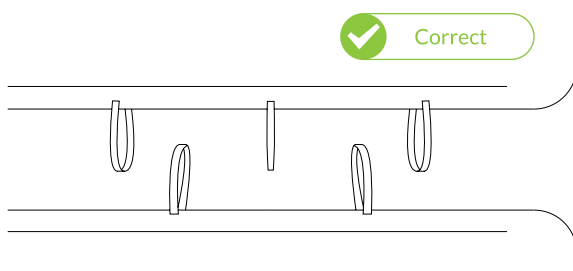
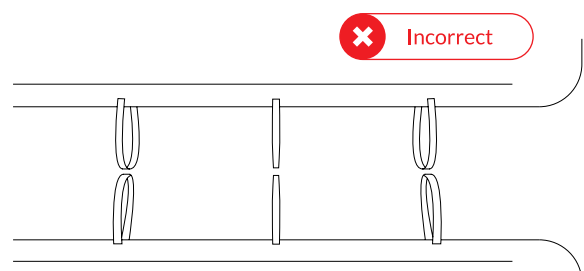

Fig 76 – Air Toggle loops should be in a staggered formation from each Platform
Fig 77 – Air Toggle loops shouldn't be aligned opposite each other
2. Before commencing joining, it is important to assess how you will be joining each platform and that the Air Toggle loops of each platform will be staggered in between each other (Fig 76).
3. T-shape and end-to-end connections all link with five Air Toggle loops, three on one end of the Platform and two from the other (Fig 76).
5. For side-by-side connections the Air Toggle loops of each platform must be staggered down the length of Platforms (Fig 76) and should never be opposite each other (Fig 77) (Air Toggles for side linking are available to purchase separately).